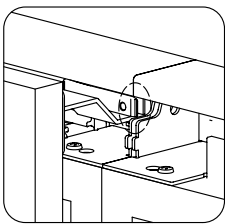

Fig.9-1
| | Washers on the door bracket ③ are obstructing the closing of the doors (Fig. 9-1). | ⇒ | Check position of both upper rail ① and lower rail ② . | Reinstall both rails in their proper position. | 3,5,6 |